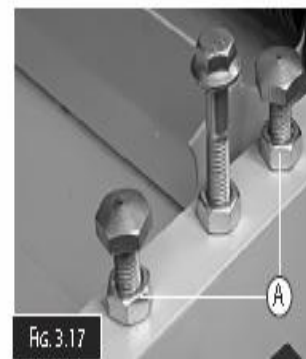

Fig. 3.17
5. Unlock the outfeed table locking handle and raise the table up. With the table out of the way adjust the two positioning studs. ("A" in Fig.3.17)